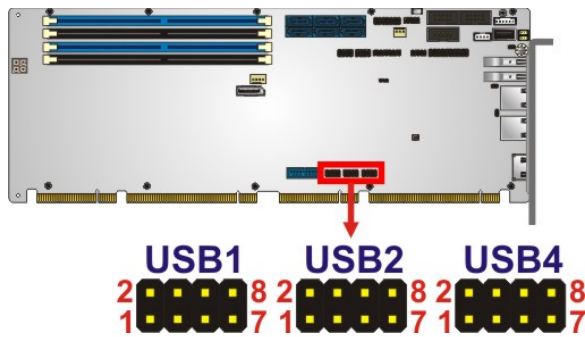

Figure 3-25: USB 2.0 Connector Locations
- CN Location:** See **Figure 3-25**